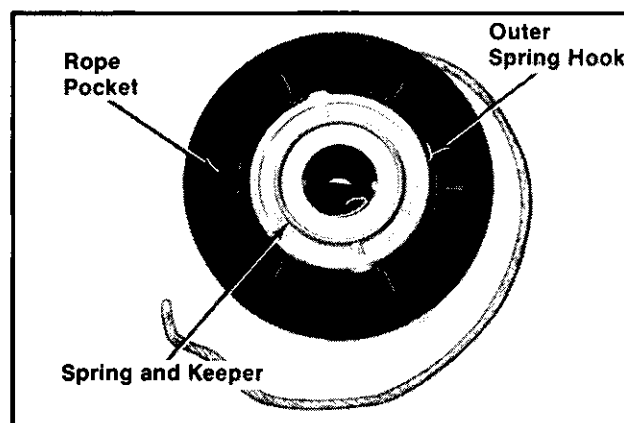

Figure 7-8. Position Of Spring And Keeper On Pulley.
10. Note the position of the spring and keeper assembly on the pulley. Also refer to Figure 7-8. (The spring and keeper assembly must be correctly positioned on pulley for proper operation.) Remove the spring and keeper assembly from the pulley **as a package**.
1. Make sure spring is well lubricated with grease. Position the spring and keeper assembly to pulley (side opposite pawls). The outside spring tail must be positioned opposite the rope pocket. Refer to Figure 7-8.